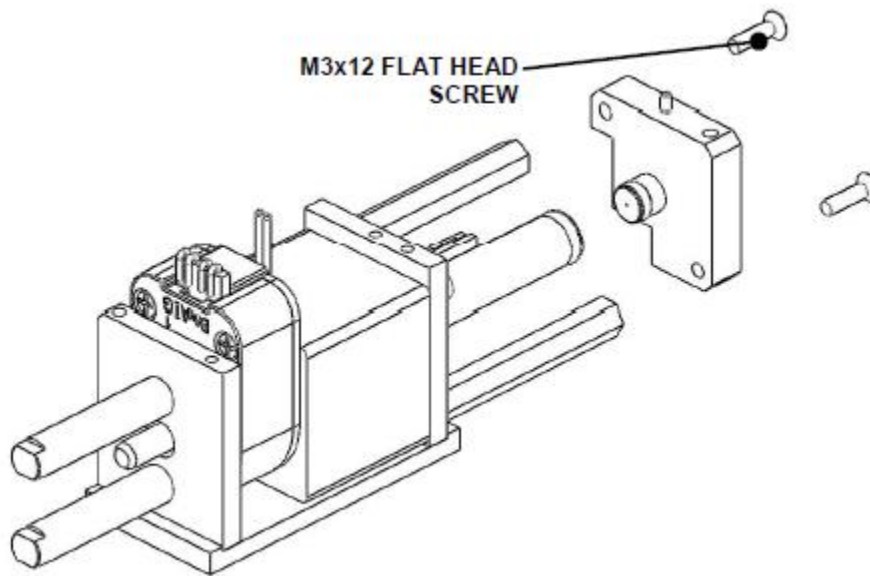

Figure U-28: Sliding the Syringe Manifold into the Dispense Tube
11. Slide the Syringe Manifold into the Dispense Tube and screw two M3x12 Flat Head Screws (using Loctite 425 as shown in Figure U-28 (note the Manifold orientation)).